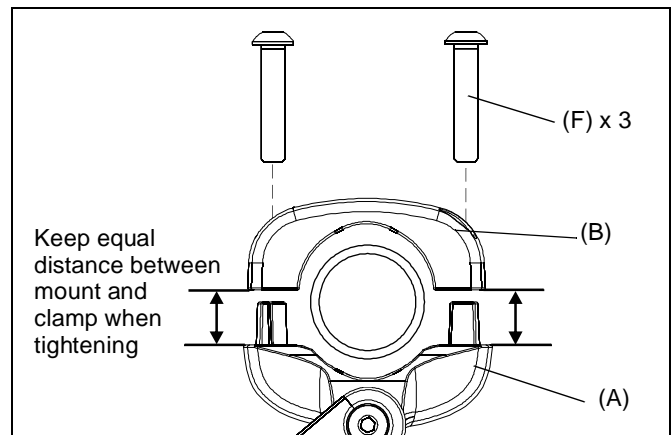

Figure 2
NOTE: Equally tighten screws (F) against back casting (B) and head assembly (A). (See Figure 2)